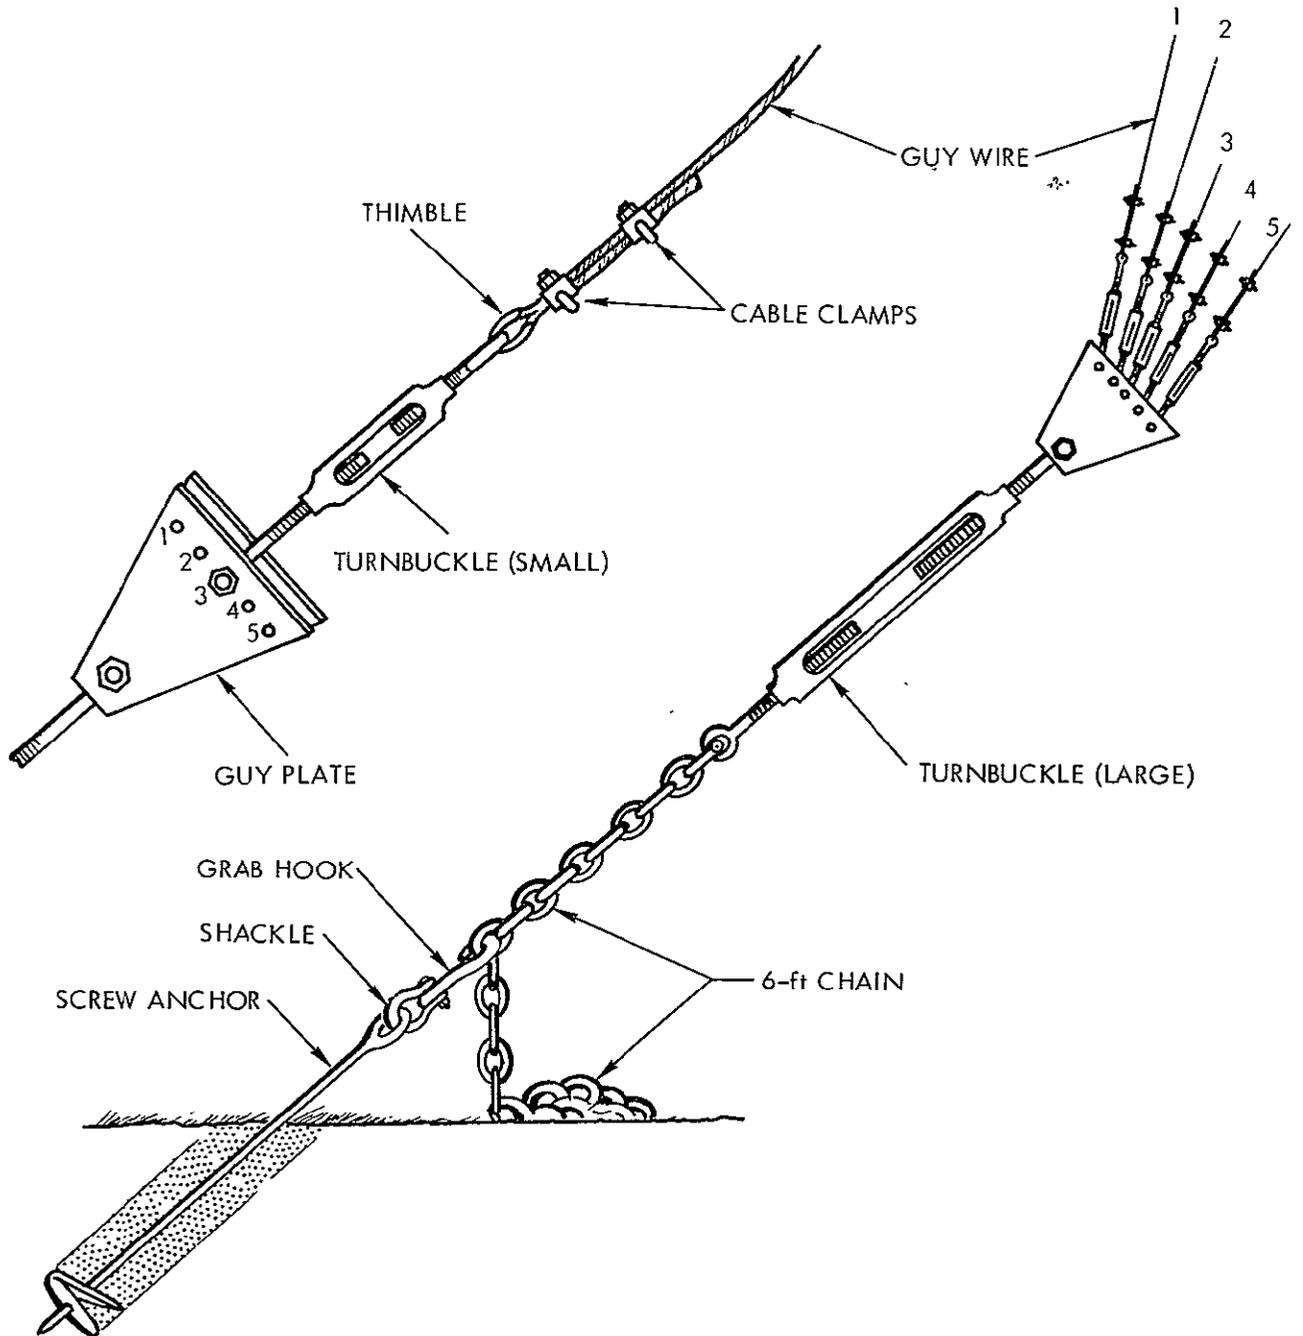

Fig. 2. Attachment of shackle and grab hook to screw anchor
- 7) Attach a shackle and a grab hook (Fig. 2) to each screw anchor.
If the slack in the guy wire is excessive, loosen the cable clamps (Fig. 2) for each wire and reduce their lengths as required.